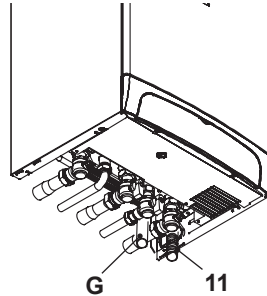

Fig. 6.4
- Connect the pipe G (Fig. 6.4) from the pressure relief valve to the safety dis-
- Fit the condensate drain 11 (Fig. 6.4) in the air brake connected to the drainage pipework. See also section "Condensate drain" to page 33.